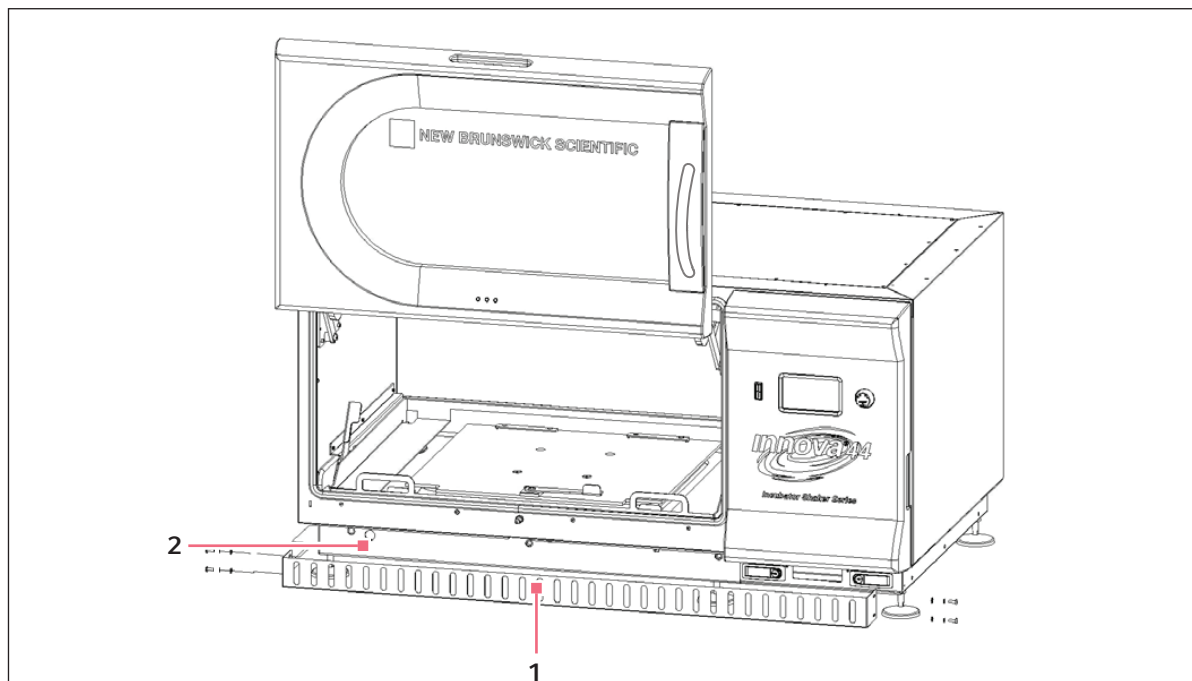

Fig. 8-6: Front grille
1. Temporarily remove the 4 thumbscrews that secure the front grille in place (Fig. 8-6 on p. 44).
1. Temporarily remove the four thumbscrews that secure the front grille (see Fig. 8-6 on p. 44).